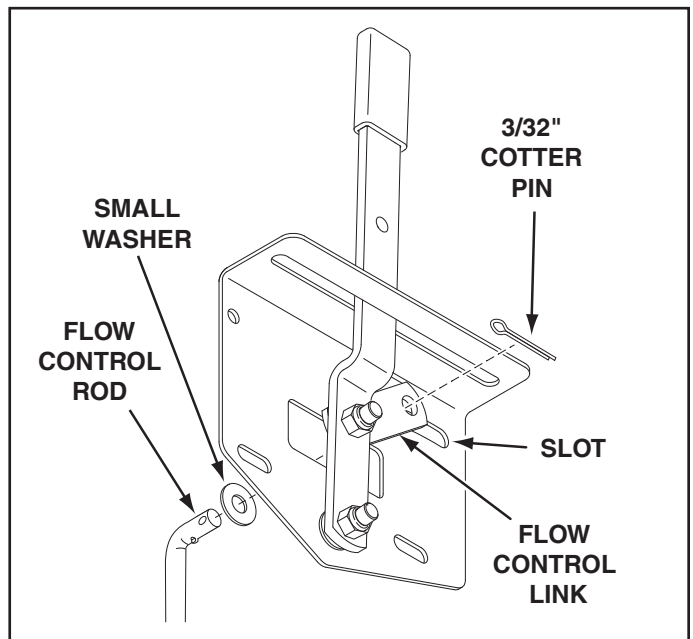

FIGURE 8
17. Place the small washer onto the end of the flow control rod. Insert the end of the flow control rod through the slot in the flow control mounting bracket and through the hole in the flow control link. Secure with a 3/32" x 3/4" cotter pin. See figure 8.